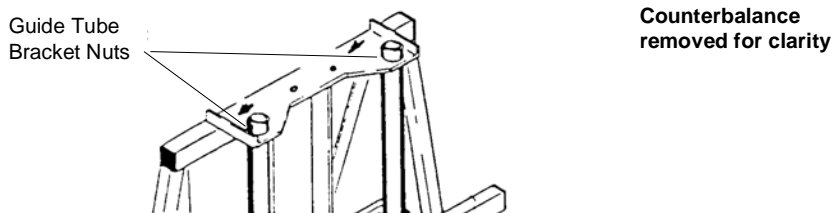

Figure 43: Aligning the Guide Tubes
1. Remove set screw, which indicates original position of guide tubes. Loosen the guide bracket nuts (Fig. 43), but **do not remove** the bracket. Using a dead blow mallet, strike the bracket on the side and in the direction you wish the guides to go.